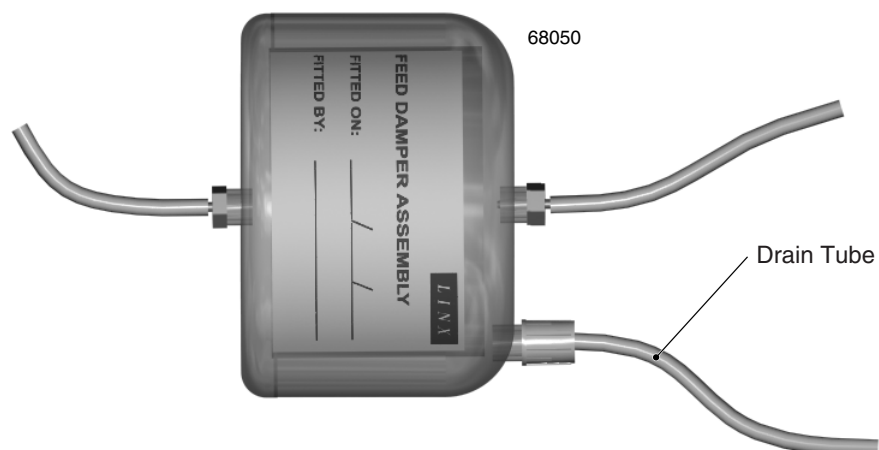

Figure 1. Feed Damper Orientation with Drain Tube Connected
- 6 Insert the other end of the drain tube into a waste container of at least 5 litres capacity. Orientate the damper so that the drain is at the bottom, i.e. at its lowest position (see figure 1).